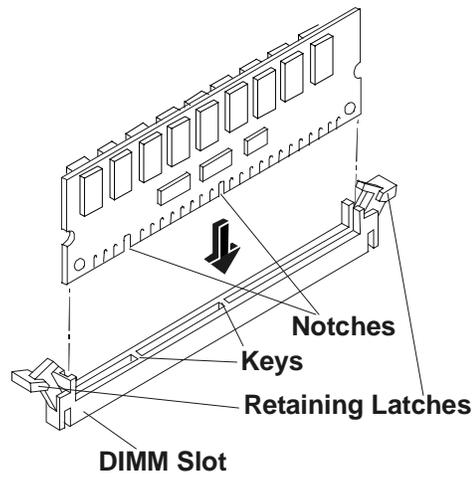

Figure 4-3. DIMM to Slot Alignment
9. Spread the two retaining latches on the slot outward. See Figure 4-3.
10. Align the notches on the DIMM with the keys on the slot. See Figure 4-3.